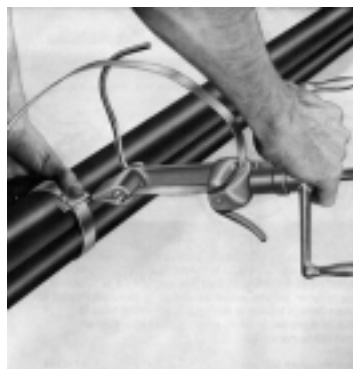

Fig. 3.13. Removing tool
- Remove tool, holding stub of band down with thumb (Fig. 3.13.).